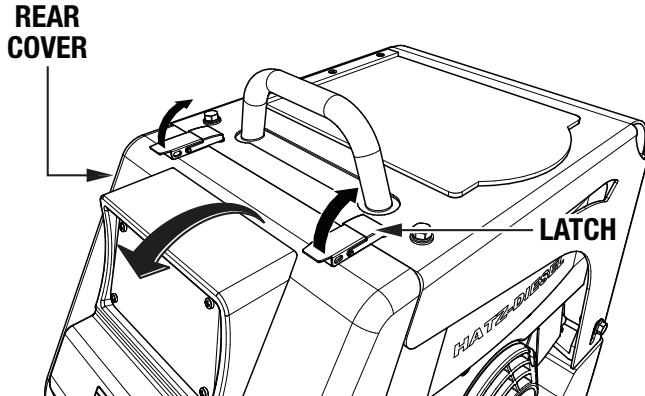

Figure 2. Open Rear Cover
1. Release the two latches at the top of the rear cover (Figure 2), then pull the rear cover downward to open.